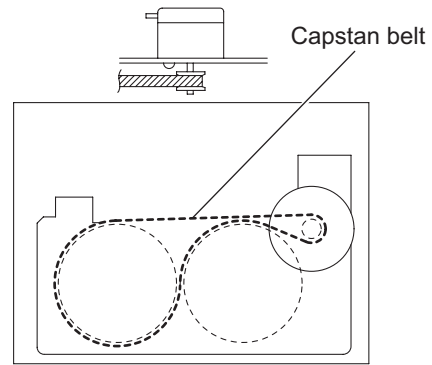

Fig.14
- (4) For reengaging the capstan belt, refer to Fig.14.